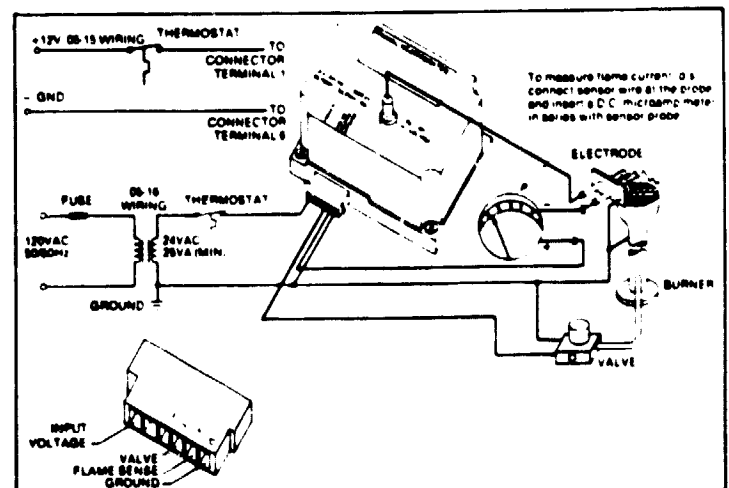

Figure 1
4. **Valve Malfunction.** With power applied to the ignitor, sparking should occur and the solenoid valve should open simultaneously. If sparking occurs but the valve does not open, place a volt meter between Terminal 4 on the input connector and ground (or across valve). Recycle the ignitor by turning the thermostat down for five seconds minimum and then back up and determine if voltage is present at the valve. [Terminals 4 (valve) and 6 (ground) in Figure 1.] If voltage is present and the valve does not open, remove wires from the valve terminals and retest the valve on a known voltage source. If valve still does not function, it should be replaced. If the voltage is not present at Terminals 4 and 6, the ignitor should be replaced. Check p.c. connector area. (Clean with soft rubber eraser only.) Also, check the terminals in the plastic connector for good contact.